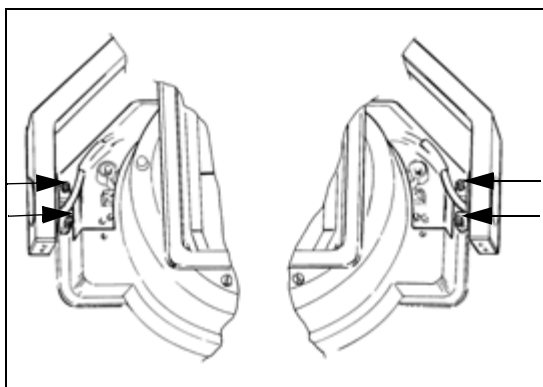

Fig. 55: Dismantling the single tank
- Remove the four screws (Fig. 55 / p. 65) of the single tank attachment.